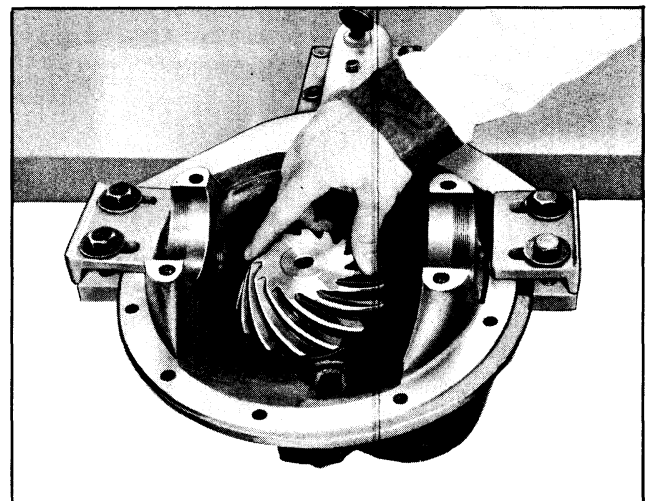

Fig. 4-36 Checking Pinion Rear Bearing for Roughness
10. Before removing pinion gear from carrier, oil pinion bearings with engine oil and turn pinion several revolutions (Fig. 4-36). If pinion turns smoothly, a visual inspection of the pinion bearings, after pinion has been removed, will be sufficient.
24. Position drive pinion, with rear bearing assembly installed, in rear bearing outer race in carrier and rotate pinion while exerting pressure on bearing (Fig. 4-36).